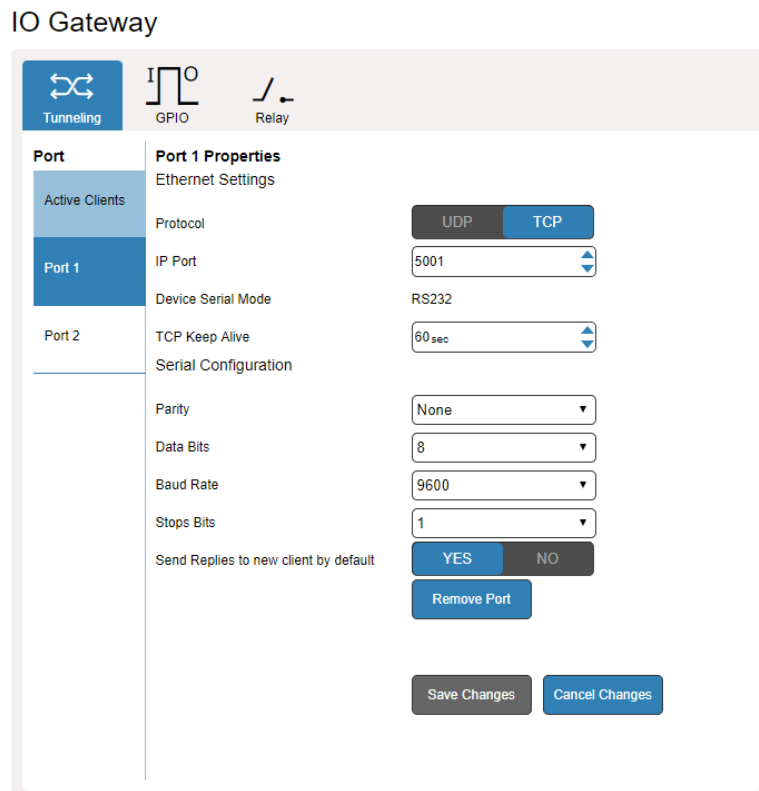

Figure 41: IO Gateway Page – Tunneling Settings
- **S/R** (Send Replies) – enabled/disabled for the port (see Figure 41).
1. In the Navigation pane, click **IO Gateway**. The IO Gateway page appears (see Figure 41).